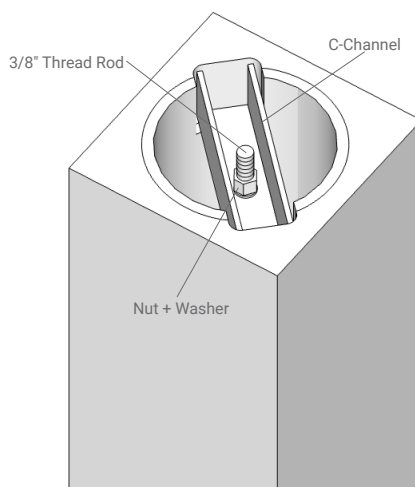

Figure 2
- Install C-channel over the threaded rod into the recessed cavity on the top of the newel post. Install $\frac{3}{8}$ " flat and lock washers and tighten $\frac{3}{8}$ " nut to a torque of 100 lbs per foot. See figure 2.